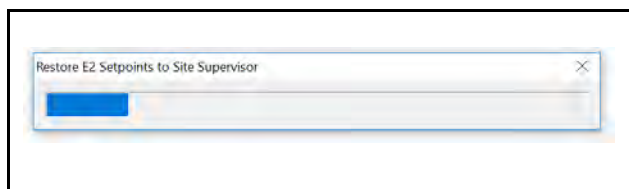

Figure F-1 - Restore Process Status Bar
7. When completed, a **Site Supervisor Restore Error List** (**Figure F-1**) will display and contain a Summary Error List of any of the following: